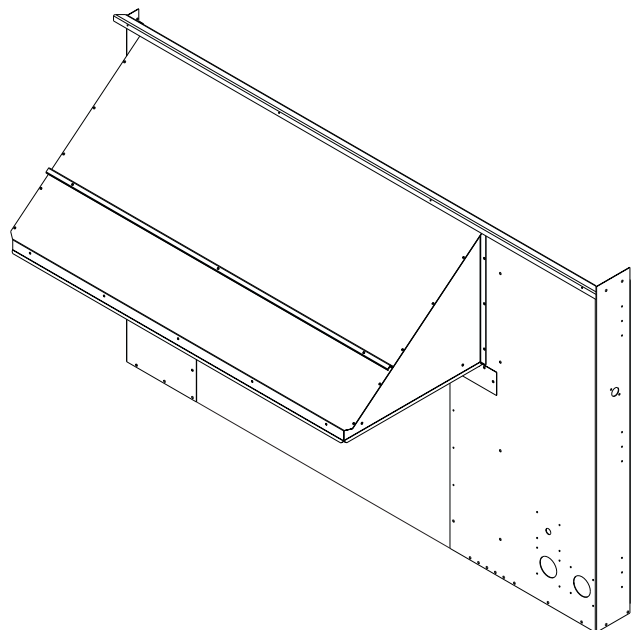

Fig. 3 — Outdoor Air Hood Assembled
10. Install the filter in the center of the outdoor air opening between the damper assemblies. See Fig. 3.